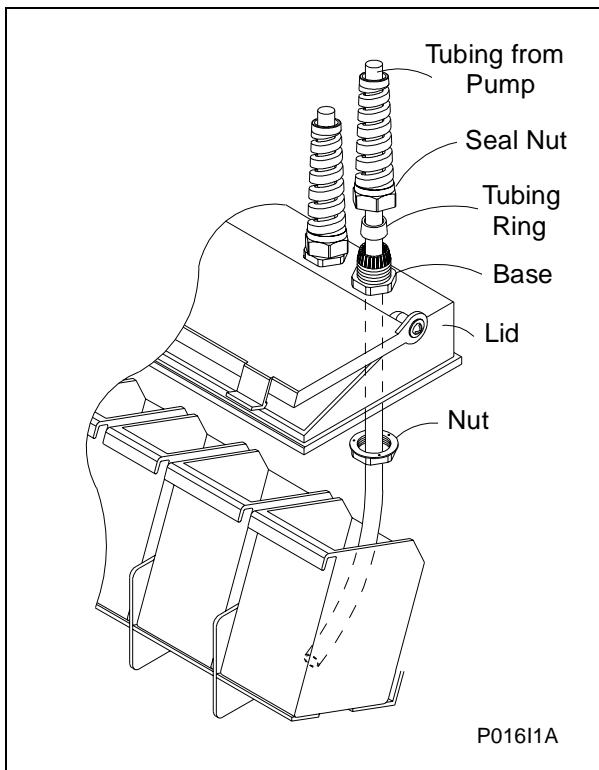

Figure 11
1. Remove plugs from base. See Figure 11.